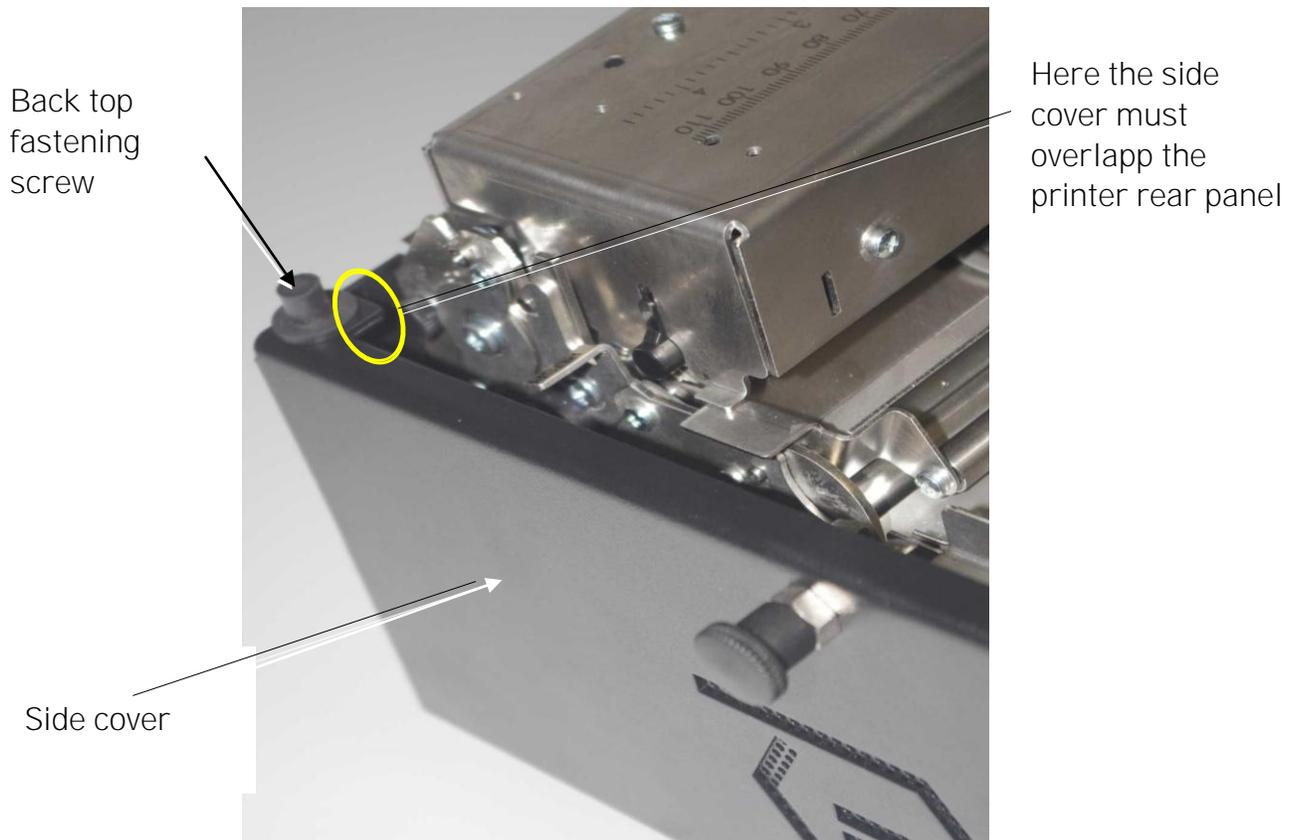

Fig. 6.2.l Remount the side cover to the correct position
- 2j. Insert the 2 upper screws (that are equipped with rubber heads) into the bore holes of the side cover and tighten the screws by hand. (Compare fig. 6.2.b).